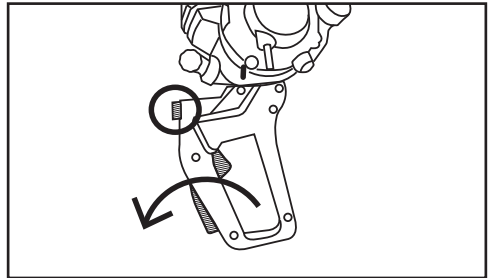

Fig. 12
- The hedge trimmer's rear handle can be set in three positions by press down the button on the handle (see Fig. 12, 13, 14).